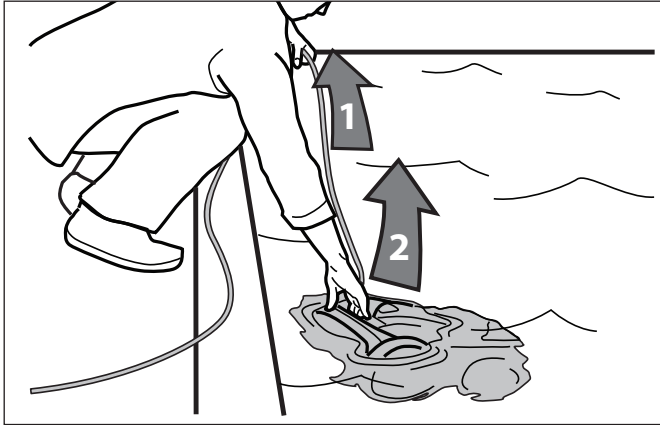

Figure 17. Remove Cleaner From Pool with Handle
1. Remove the cleaner from the pool using the Lift System. When the cleaner is within arm's reach, use the handle to remove from the water (Figure 17). Never lift the cleaner out of the pool by the floating cable or swivel.